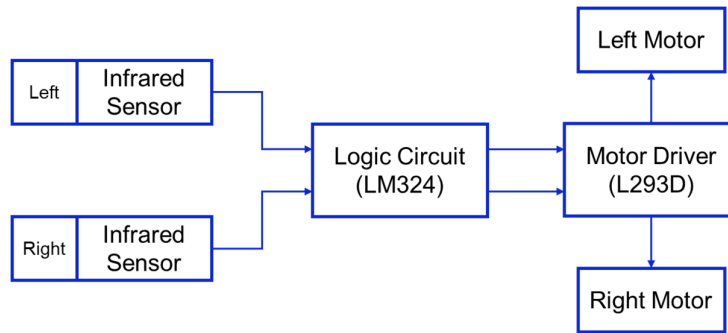

Fig. 1: Block diagram of the overall system
The line following robot works on simple logic obtained by combining the comparator circuit and L293D motor driver working. The infrared (IR) sensors give the output to LM324 comparator integrated circuit (IC). The IC gives high output when IR LEDs detect some object in front of it (or in our case, detects white light). Then the comparator IC gives high output (VCC). This is used as the input signal to decide whether to drive the motor or not. Since each IR sensor is associated with each motor, we can run the motor forward by driving both the motors and we can make turns by driving only one of the motors at a time. Block diagram of the overall system is shown in Fig. 1.